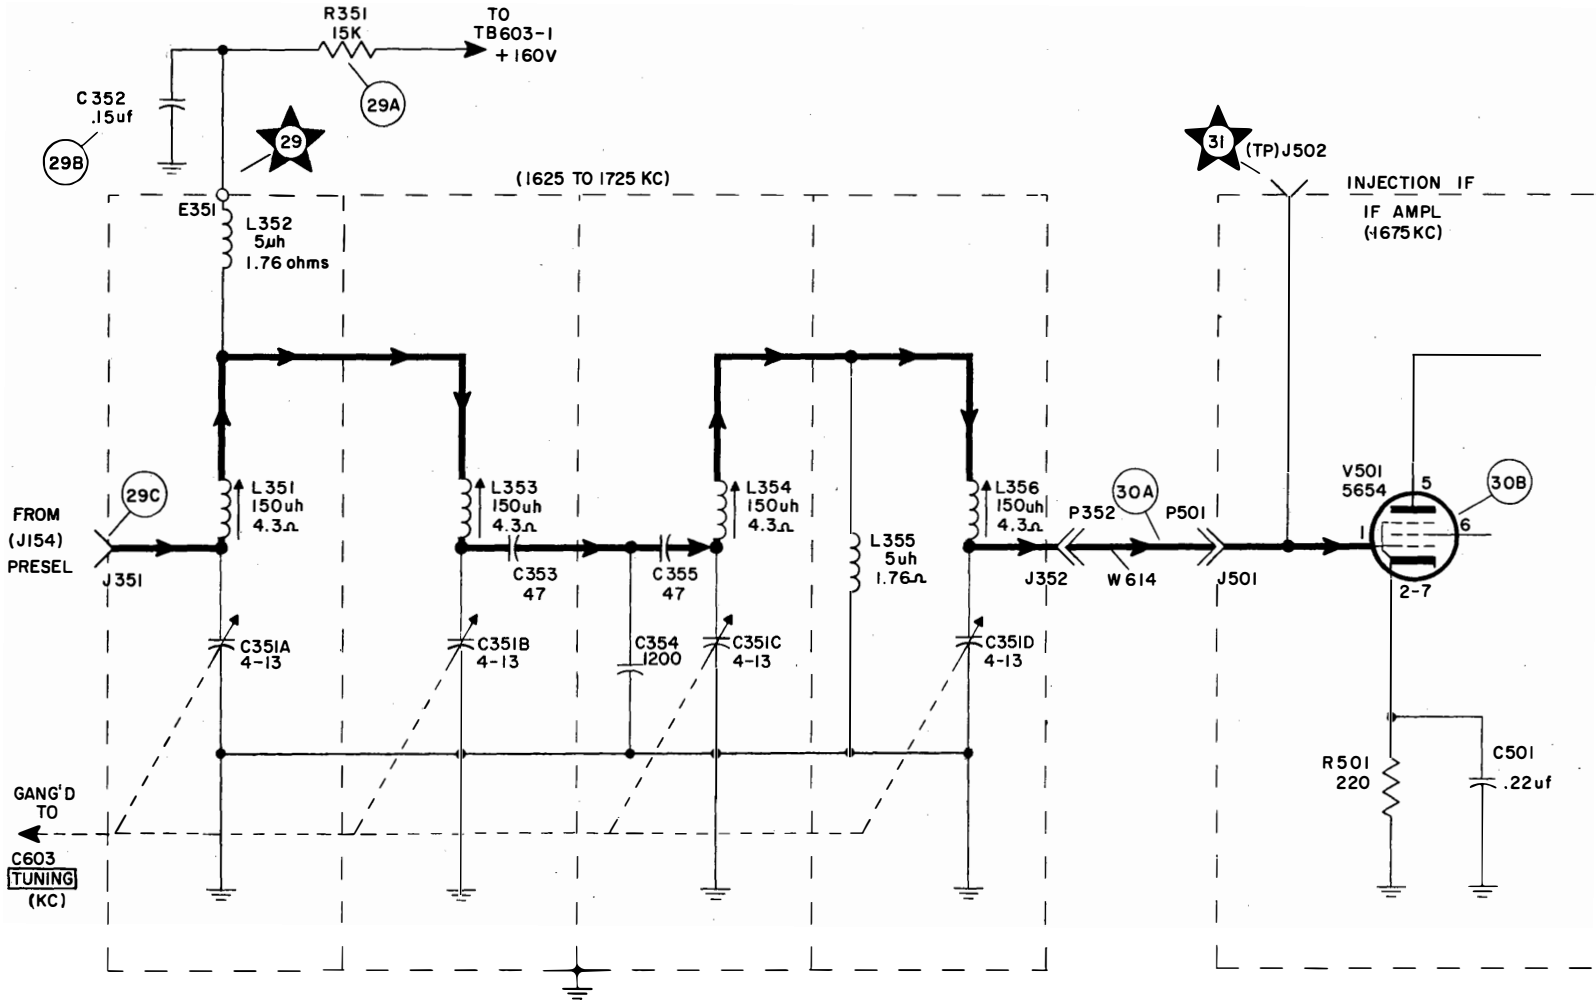
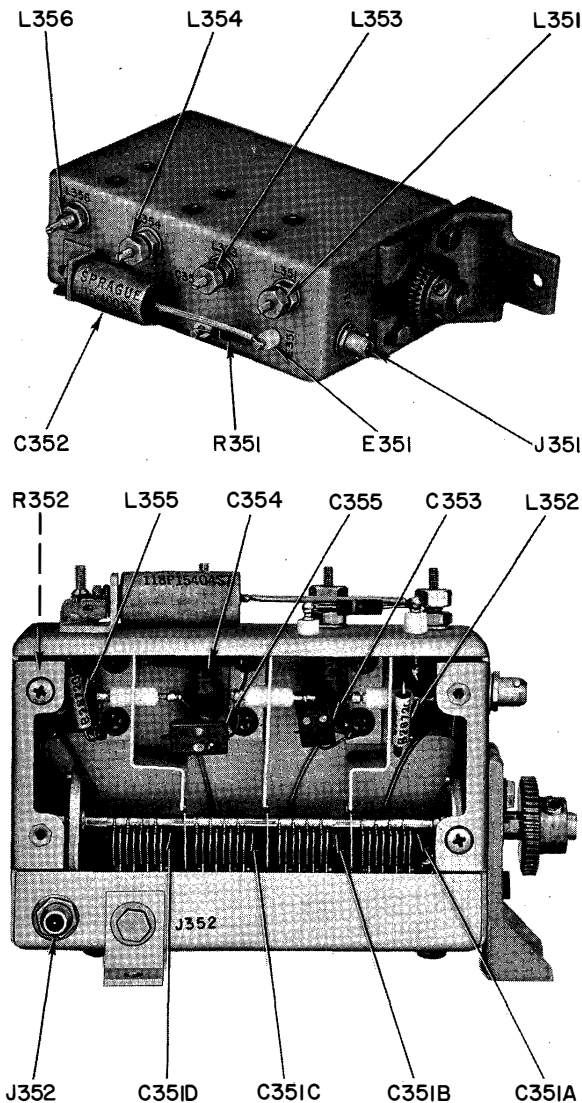

Figure 5-14. Tunable IF Filter, Functional Schematic Diagram
Figure 5-15. Tunable IF Filter, Location of Parts
*a. DIAGRAMS.*— Figure 5-14 is a functional schematic diagram of the tunable IF filter. Refer also to figure 5-11, the functional schematic diagram of the preselector, because the plate circuit load for V151, the preselector mixer stage, is part of the tunable IF filter circuit. Figure 5-15 shows the location of parts of the tunable IF filter and figure 5-16 the location of test points.
- (1) Input and output connectors J351 and J352
- (2) Soldered connections at chassis feed-through E351.